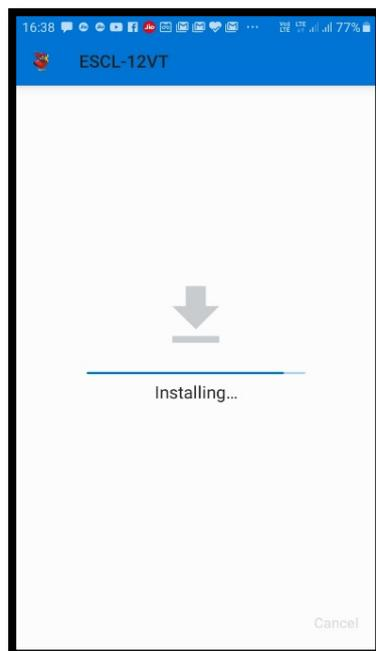

Fig 2-1: Installing
- Go to copied location in tap on ESCL-12VT.apk. Then tap on install refer Fig 2.1 and 2.2.